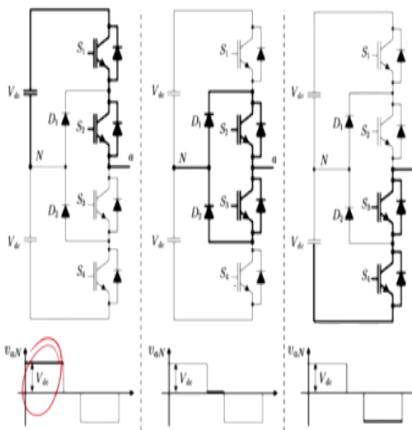

Fig.9: 3-level NPC switching states & corresponding output voltage levels.
- Fig.9 shows the three different switching states for one phase of the NPC and their corresponding output voltage levels.
So note that there are only two signals per phases. The other two switches receive inverted gating signal to avoid the DC link short circuit. Figure 9 shows the three different switching states for one phase of the NPC and the corresponding output voltage levels. The obtained equivalent circuit is highlighted to show how the output node a is linked to the positive, neutral and the negative node of the DC circuits.